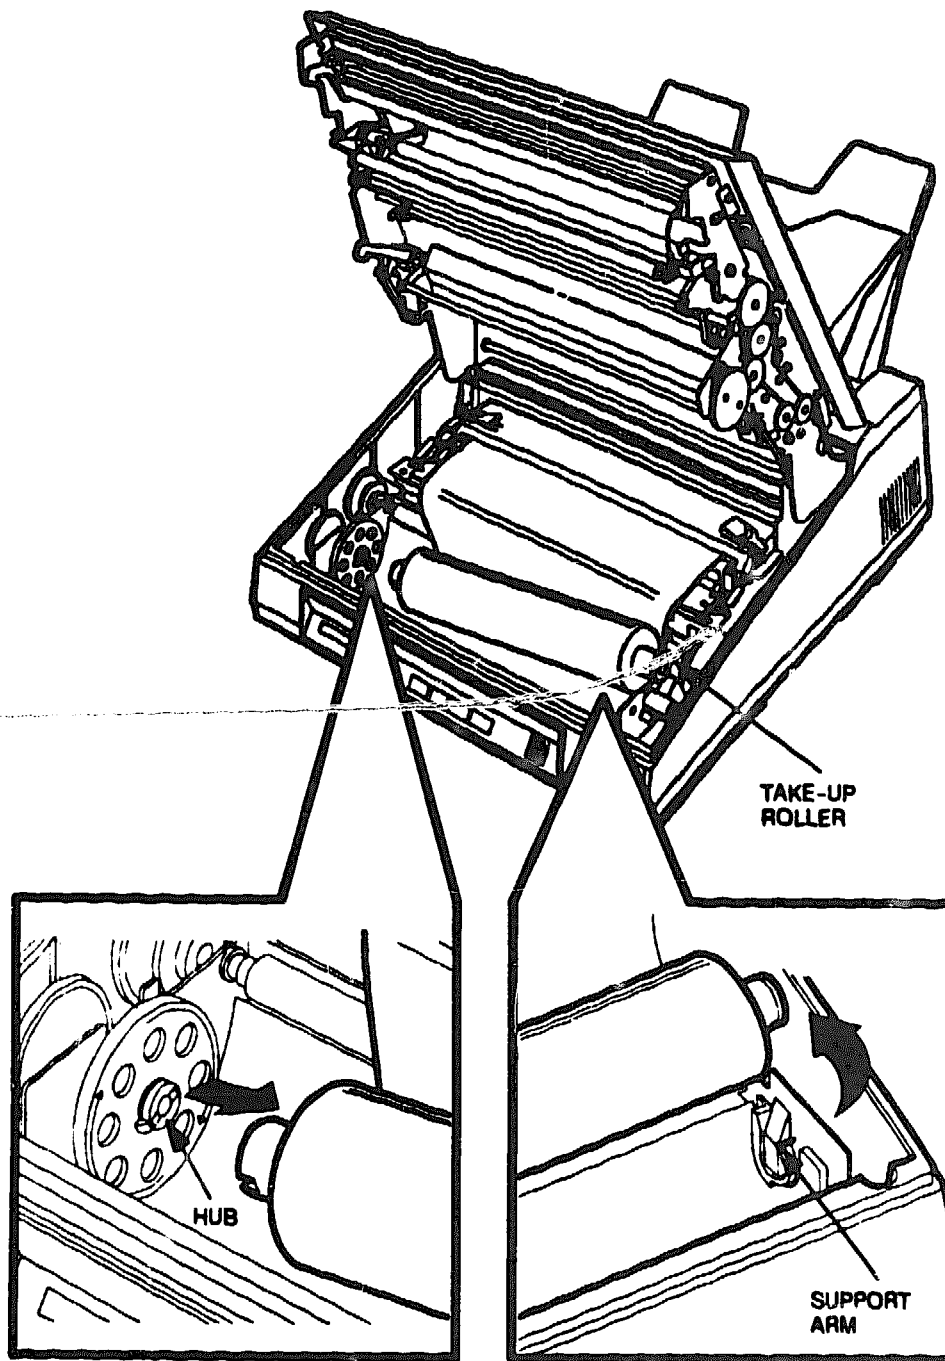

Figure 6-1 Ribbon Core (Take-up Roller) Removal
2. Lift up the ribbon core (take-up roller) on the right side. Then remove the left side from the ribbon hub (see Figure 6-1).